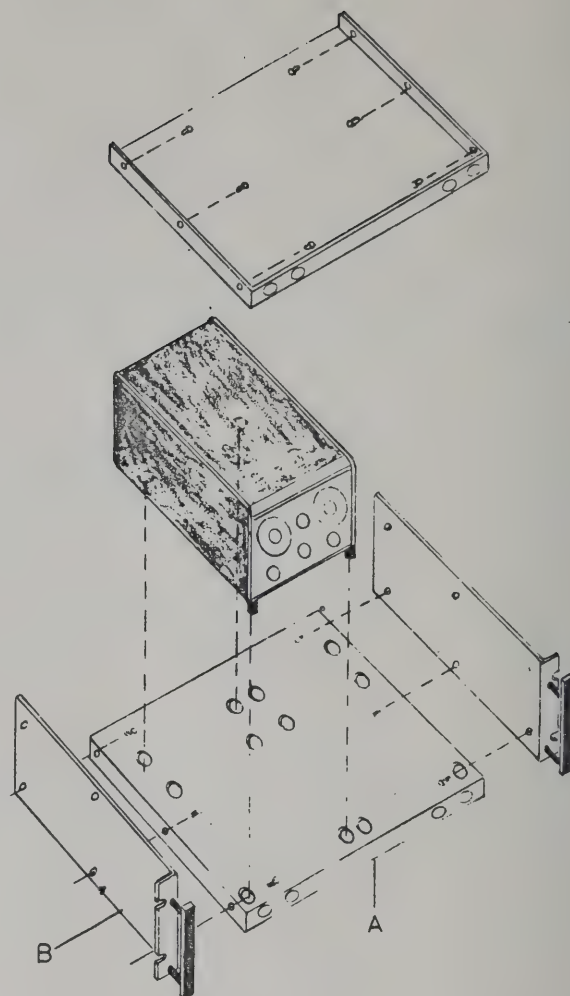

Figure 2-2. K-104 Rack Mounting
2.1.5 K-104 Rack Mounting Kit (Refer to Figure 2-2)